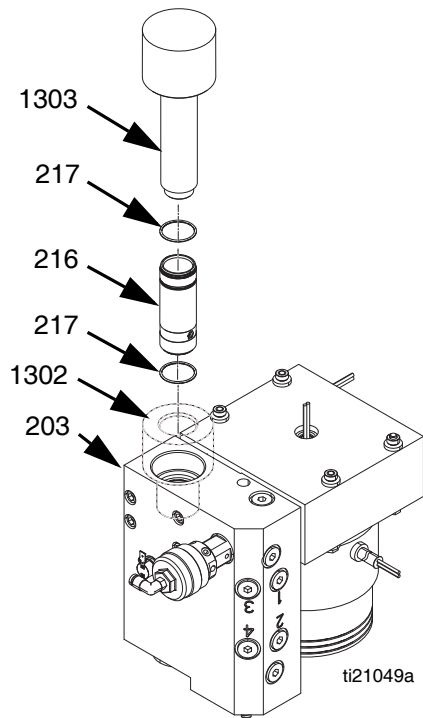

FIG. 36
2. Place female cylinder installation tool (1302) into melter outlet manifold (203) to protect seals from sharp threads. See FIG. 36.
3. Use male cylinder installation tool (1303) to press cylinder (216) into melter outlet manifold (203). If necessary, use rubber mallet tap into place. See FIG. 36.